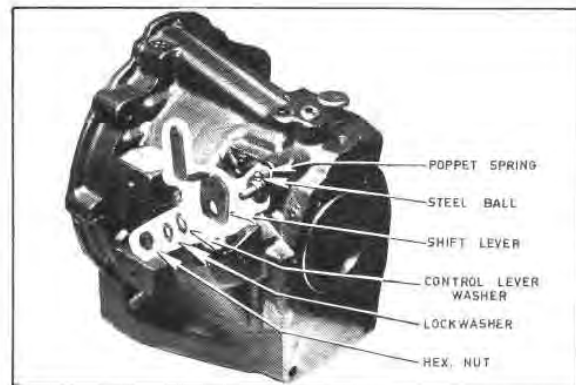

Fig. G51 — Assembly of Shift Lever and Related Parts
8. Assemble the shift lever and related parts in the order shown in Figure G51. Torque the hex nut to 12 to 14 lbs./ft. Rotation of the rotary control valve assembly through the forward, neutral, and reverse positions should require no more than finger tip effort. If the valve binds in rotation, remove and inspect for nicks and burrs.